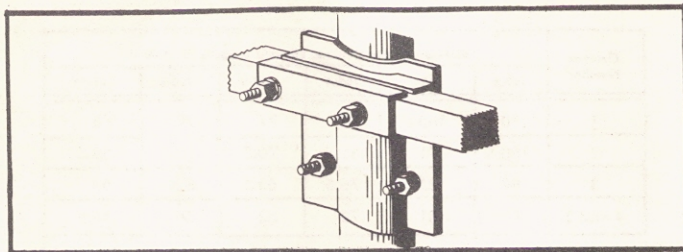

FIG 3 TYPICAL U-BOLT MOUNTING OF MODEL J55 AND J105
2. Loosely assemble the dual "U" bolt mounting bracket onto the crossarm as shown in Figure 3.